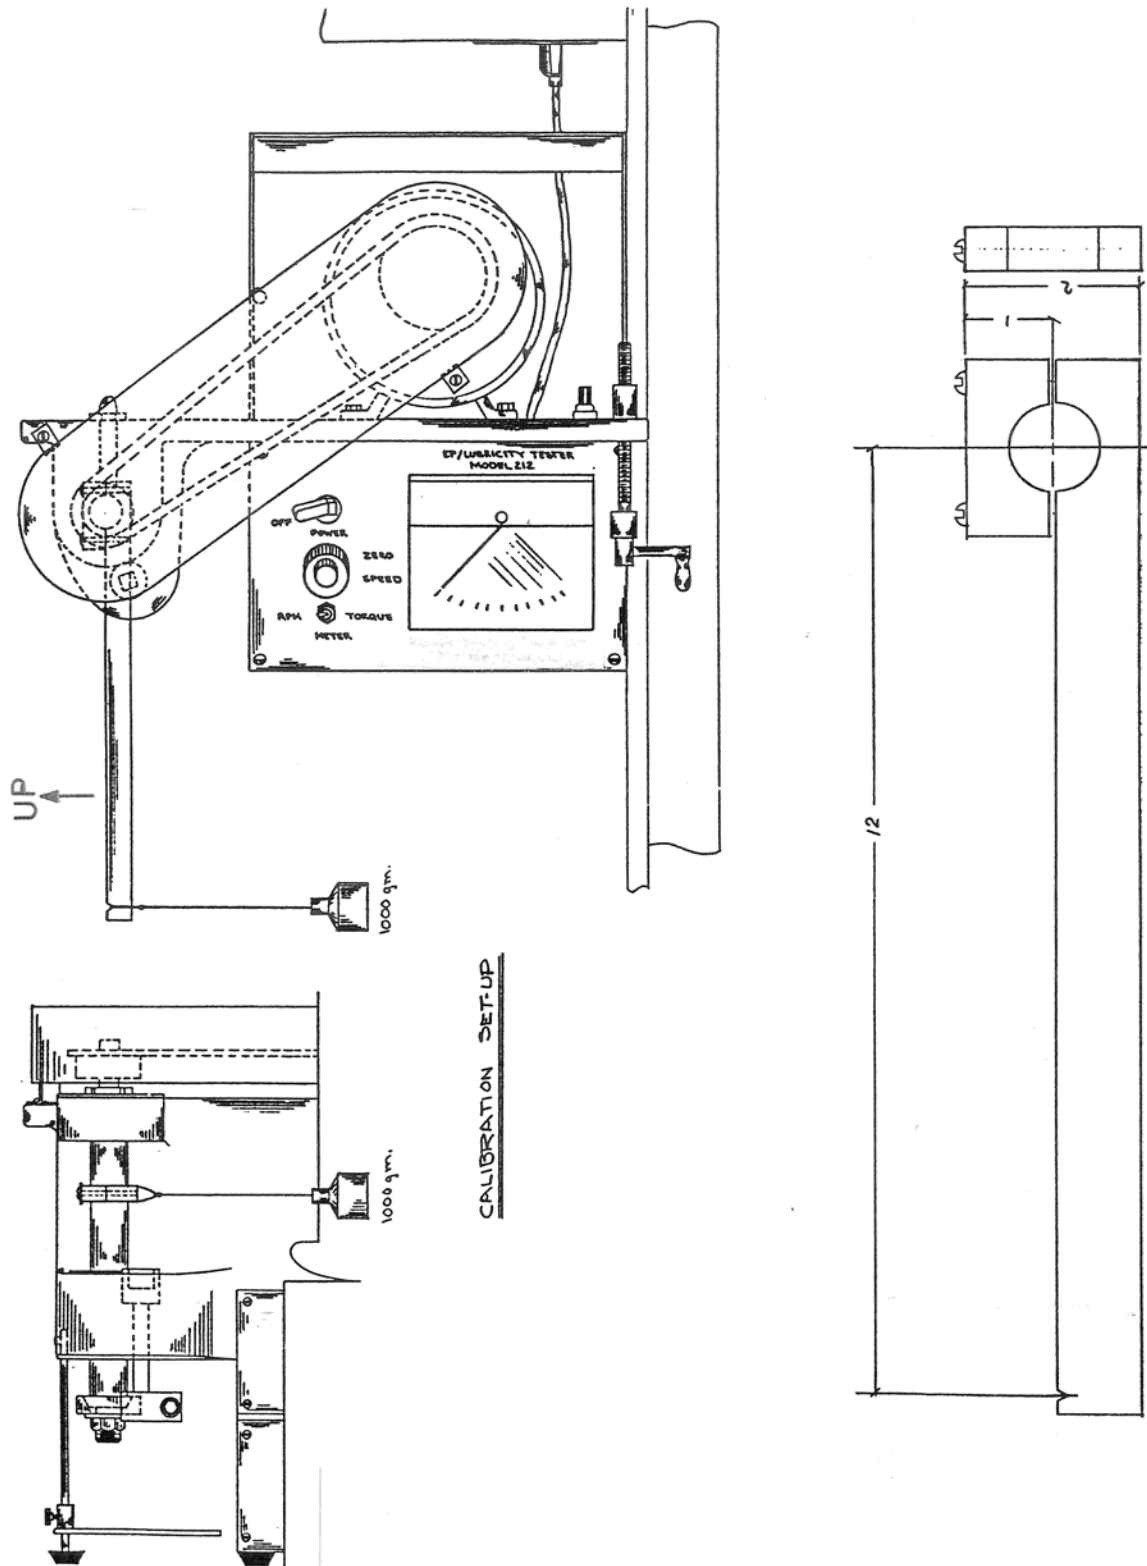

Figure 9 – Prony Brake Calibration
- 7.6.3.3 Turn unit on its side and install prony brake on the main shaft between the upper and lower bearing housing as shown in Fig. 9. Make sure panel is temporarily supported and no electrical connections can short or may be touched.
- 7.6.3.5 Adjust speed to 60 RPM, then adjust the tightness of the screws in the prony brake until it balances horizontally with the 1000 gram weight hanging in the notch. Make sure that the speed is maintained at 60 RPM. Carefully support arm of prony brake until screws are sufficiently tight. The arm of prony brake must be maintained as nearly horizontal as possible. (Refer to Fig. 9)